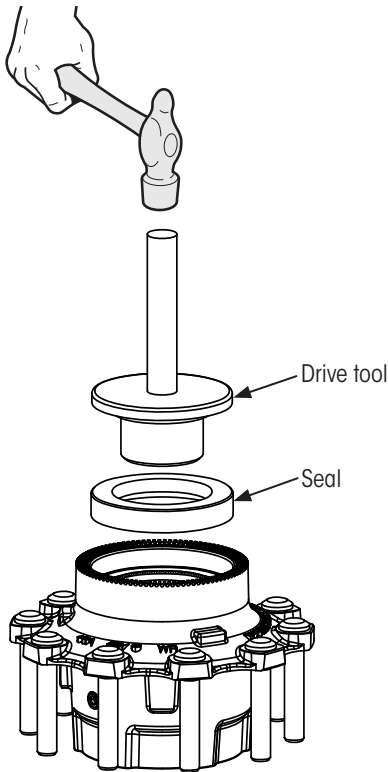

Figure 8: Hub-mounted seal installation
**NOTE:** A hub seal driver (Figure 8) is recommended and can be obtained from seal manufacturer.
8. Place seal onto the drive tool (Figure 8) for installation into the hub according to seal manufacturer's instructions.